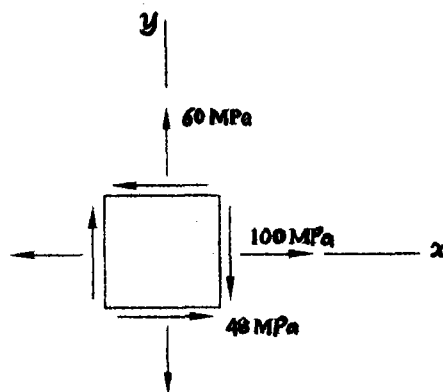

Figure 3/Gambarajah 3
3. For the state of plane stress shown in **Figure 3**, determine:-